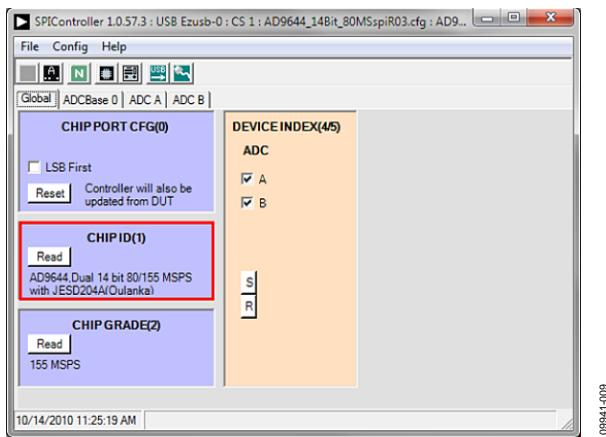

Figure 9. SPI Controller, CHIP ID(1) Box
- Start the SPI Controller software by selecting the SPI controller software from the **Start** menu or by double-clicking the **SPIController** software desktop icon. If prompted for a configuration file, select the appropriate one. If not, check the title bar of the window to determine which configuration is loaded. If necessary, select **Cfg Open** from the **File** menu and select the appropriate file based on your part type. Note that the **CHIP ID(1)** field should be filled to indicate whether the correct SPI controller configuration file is loaded (see Figure 9).